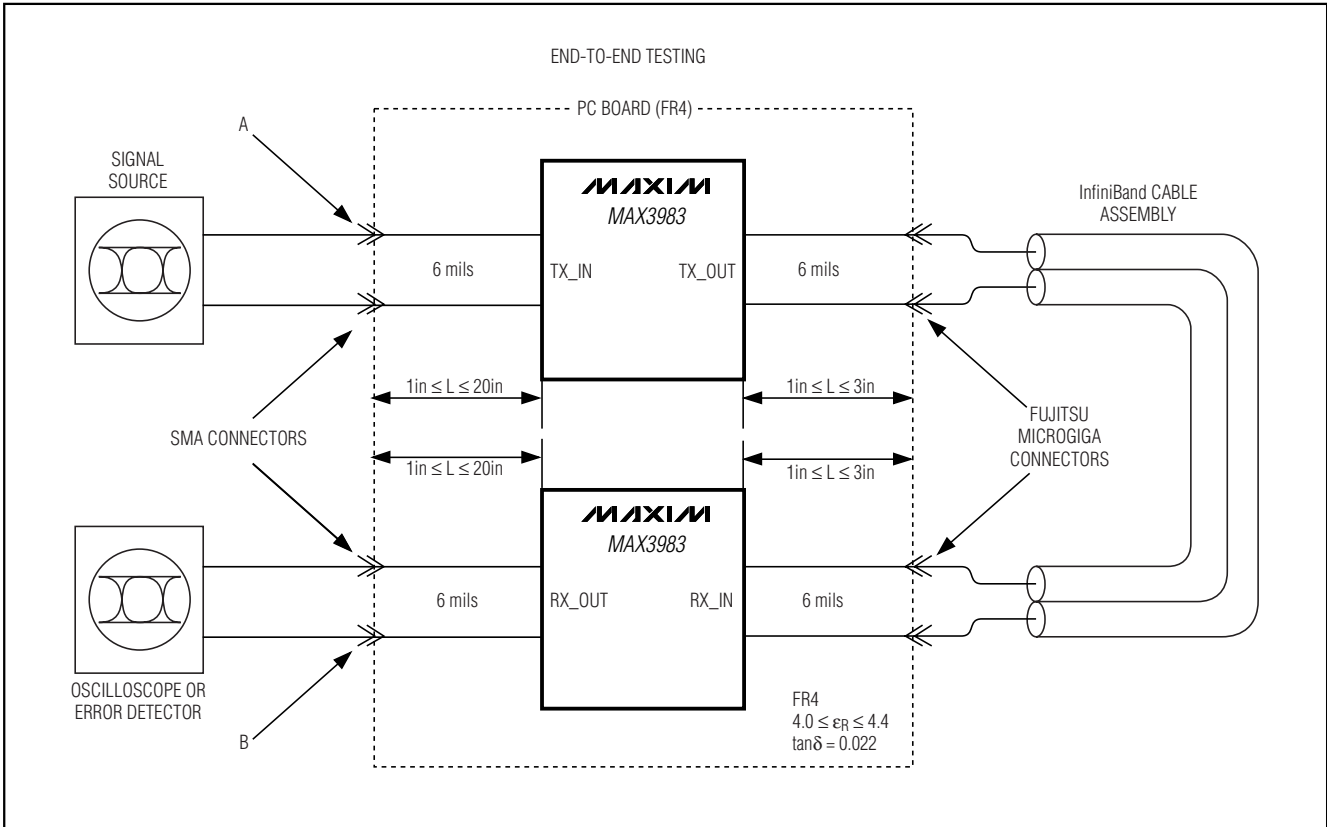

Figure 2. End-to-End Test Setup. The points labeled A and B are referenced for AC parameter test conditions.
**Note 5:** Cables are unequalized, Amphenol Spectra-Strip 24AWG and 28AWG or equivalent equipped with Fujitsu “MicroGiga” connector or equivalent. All other channels are quiet. Residual deterministic jitter is the difference between the source jitter and the output jitter at the load. The deterministic jitter (DJ) at the output of the transmission line must be from media-induced loss and not from clock-source modulation. Depending upon the system environment, better results can be achieved by selecting different preemphasis levels.
**Note 13:** Cables are unequalized, Amphenol Spectra-Strip 24AWG or equivalent equipped with Fujitsu “MicroGiga” connector or equivalent. Residual deterministic jitter is the difference between the source jitter at point A and the load jitter at point B in Figure 2. The deterministic jitter (DJ) at the output of the transmission line must be from media-induced loss and not from clock-source modulation. Depending upon the system environment, better results can be achieved by selecting different preemphasis levels.